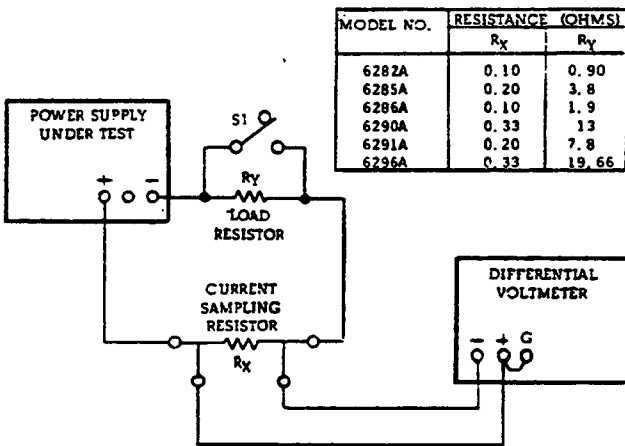

Figure 5-4. Output Current Test Setup
| Resistive Loads | Value: See Paragraph 5-14. and Figure 5-4. \pm 5% 250 watts. | Power supply load resistors | ----- |
| Current Sampling Resistor | Value: See Figure 5-4. 1%, 200 watts, 20ppm, 4-Terminal. | Measure current; calibrate meter | ----- |
- Connect test setup shown in Figure 5-4, leaving switch S1 open.
- Connect test setup shown in Figure 5-4.
- Utilize test setup shown in Figure 5-4 leaving switch S1 open throughout test.
- Use test setup shown in Figure 5-4, except connect AC voltmeter across sampling resistor instead of differential voltmeter.